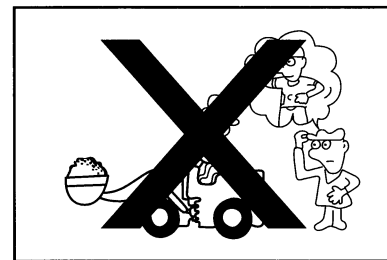

Figure1-43
- Ensure that no one or no obstacle is near the loader. (Figure 1-43)